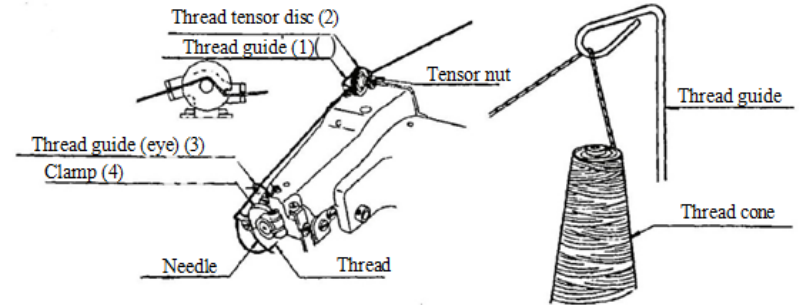

Fig. 9
C. In order to sew correctly on the machine, the thread should be run exactly as shown on Figure 9.
If you are using a thread tensioner, first you must thread the thread through the rear eye of the thread guide (1). Then lead the thread between the two tensioner discs (2), as per Figure 9. Thread the thread from the back of the front eye of the thread guide. Lead thread to the front of the machine, lead it from the top to the thread guide (3) and eye (4).